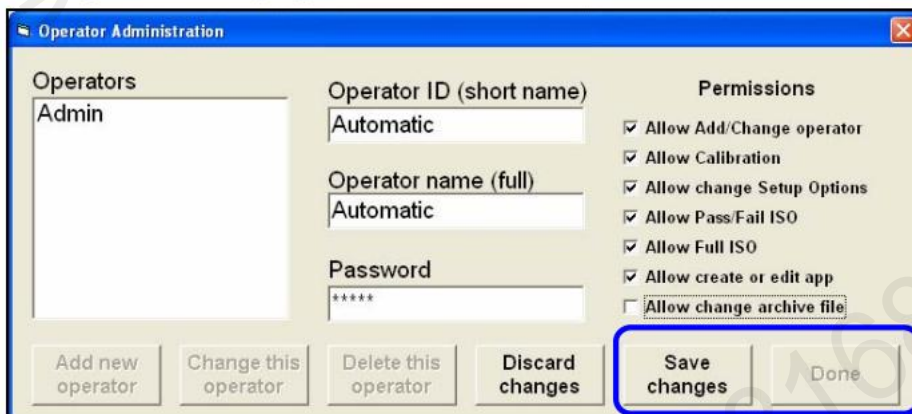

图36: 依次点击[Done]、[Save changes]
5. 在[Operator ID (short name)]字段和[Operator name (full)]字段中均输入“Automatic” (图 36)。